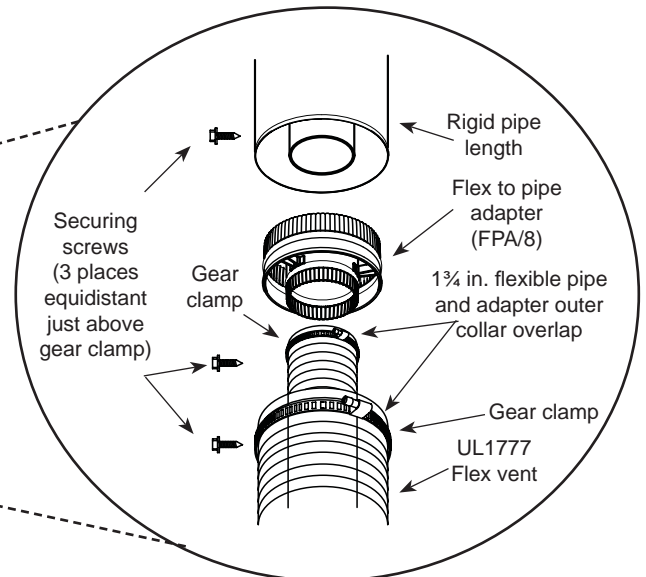

Figure 4 — Typical pipe connection
2. Review *Figure 4* and corresponding instructions for proper overlap, clamp and screw placement.